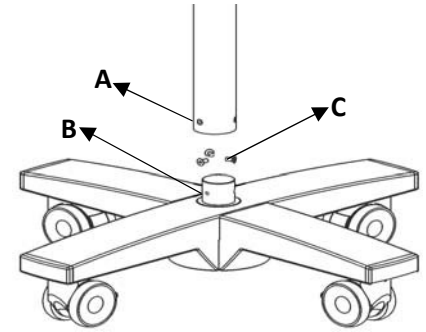

Fig. 7
1. Open the microscope box. Take out (column) from the box. Mount the column onto a shaft in base by aligning the corresponding holes in Column (A) and shaft (B). Secure it with (3) M6x16mm Allen Screws (C) using 4mm Allen Key as shown in Fig. 7.
- a. Ensure that the swivel arm lock knob (D) is loosened.
- b. Mount the Arm assembly into the Shaft (F).
- c. Align three holes (E) with tapped hole on Shaft (F).
- d. Use Allen wrench 4mm and tighten 2 M6x16mm Allen screws (G).